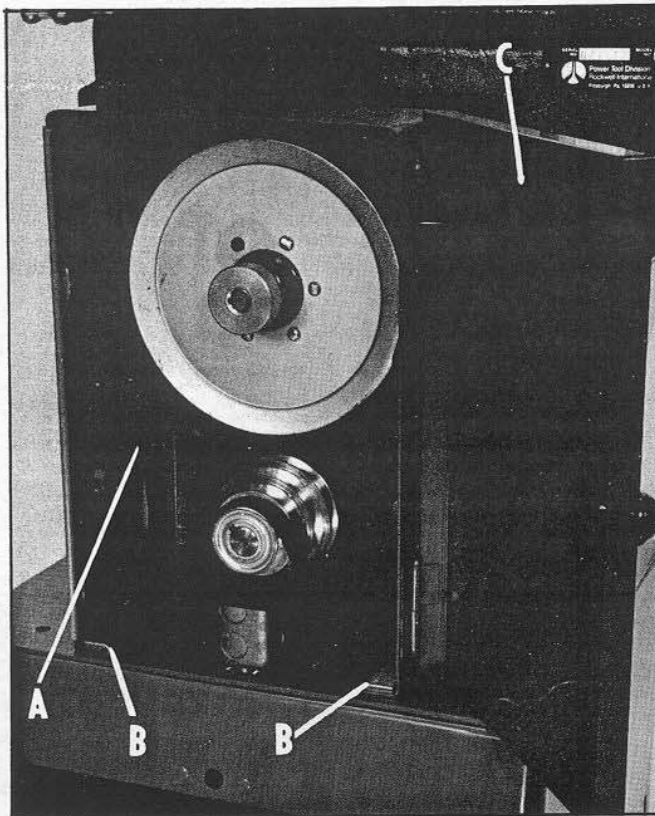

Fig. 9
2. Place the belt and pulley guard (A) Fig. 9, on the top shelf over the belt opening and position the two clamps (B) over the guard flanges and under the top of the stand as shown. Use the four round head screws in the bottom of clamps to fasten in place.
3. Replace both V-belts and place door (C) Fig. 9, on hinges.